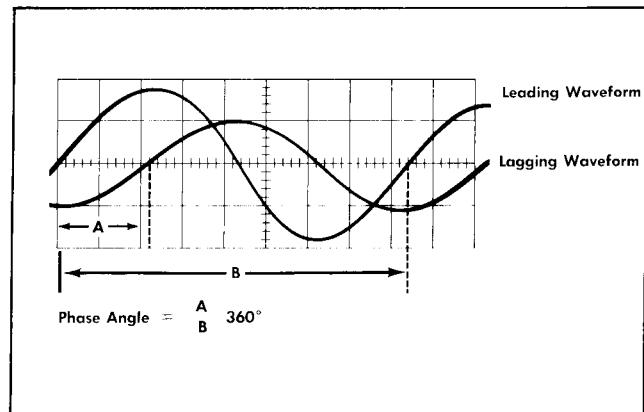

Fig. 3-8. An alternate method for measuring the phase angle between two electrical signals.
Referring to Fig. 3-8, it can readily be seen that the phase angle between the two waveforms is  $360^\circ \times A/B$ . It is apparent that it is not necessary to calibrate the display in degrees per centimeter as long as it is possible to measure A and B accurately. It is particularly important to measure A accurately when the phase angle is less than  $10^\circ$ . The delayed sweep feature provides the means for making these measurements. The phase angle can be found by: (1) measuring A; (2) measuring B; and (3) multiplying A/B by  $360^\circ$ . Here again the relative amplitude of the two waveforms is unimportant as long as the waveforms are centered about the horizontal centerline of the graticule.
line of the graticule. Record the setting of the DELAY TIME MULTIPLIER control. Subtract the setting of the DELAY TIME MULTIPLIER control obtained in step 3 from that obtained in this step. The number obtained is the dimension B shown in Fig. 3-8.
5. Disconnect the first waveform and connect the second (lagging) waveform to the oscilloscope input. Place the HORIZONTAL DISPLAY switch in the "B" INTENSIFIED BY "A" position. Center the displayed waveform exactly about the horizontal centerline of the graticule. Adjust the DELAY-TIME MULTIPLIER control clockwise from the final setting of step 4 until the start of the brightened portion of the trace is at the point where the curve next crosses the horizontal centerline of the graticule (see Fig. 3-11). Place the HORIZONTAL DISPLAY switch at "A" DEL'D BY "B". Adjust the DELAY-TIME MULTIPLIER control so that the start of the trace is at the horizontal centerline of the graticule. Record the setting of the DELAY-TIME MULTIPLIER control. Subtract the setting of the DELAY-TIME MULTIPLIER control obtained in step 4 from that obtained in this step. The figure obtained is the dimension A shown in Fig. 3-8.